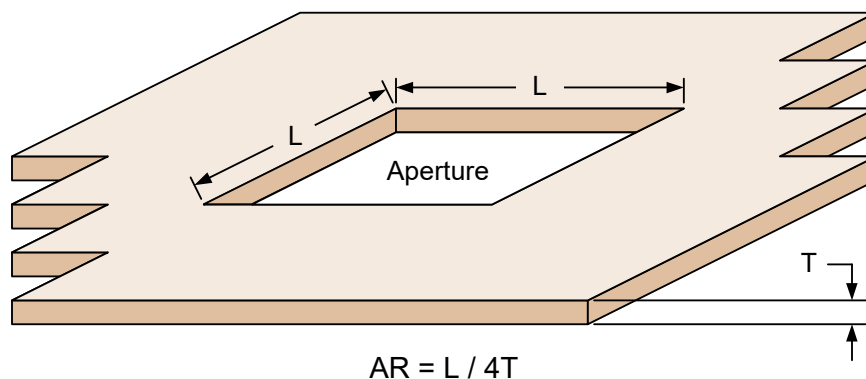

Figure 6-1 Area ratio (AR)
One key parameter that should be evaluated is the ratio of aperture area to sidewall area, known as the area ratio (AR). QTI recommends square apertures for optimal solder-paste release. In this case, a simple equation can be used relating the side length of the aperture to the stencil thickness (as shown and explained in Figure 6-1). Larger area ratios enable better transfer of solder paste to the PCB, minimize defects, and ensure a more stable printing process. Inter-aperture spacing should be at least as thick as the stencil; otherwise, paste deposits may bridge.